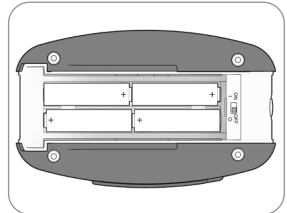

Fig. 3
3. Insert four (4) new "AA" alkaline batteries as pictured inside the battery compartment (Fig. 3). Take care not to damage battery contacts.